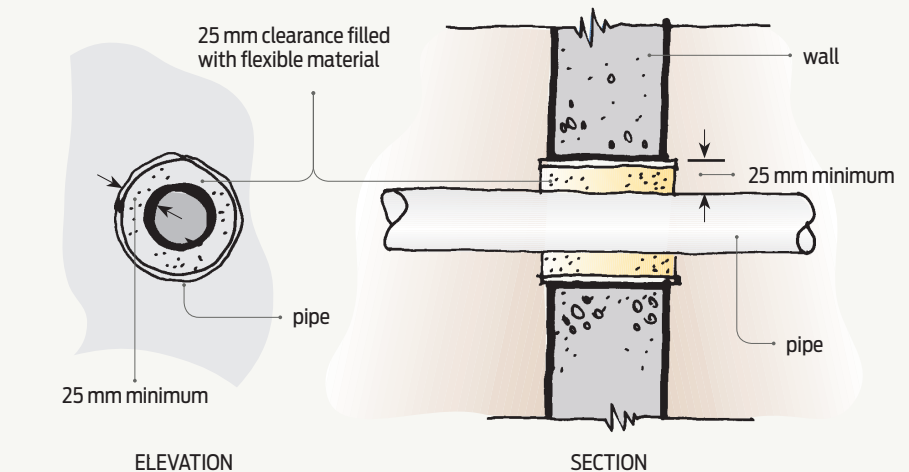

Figure 3 Pipe passing through wall or footing.
- Penetrations through concrete must be installed to allow for movement through the slab or footing (Figures 3 and 4).